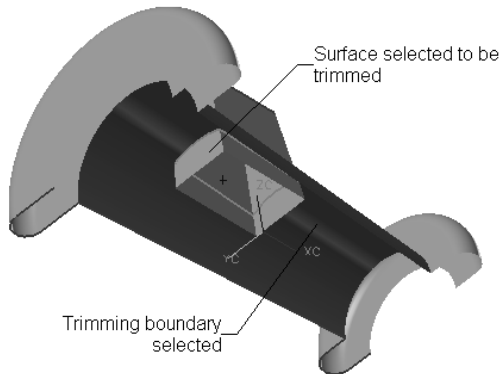

Figure 11-98 The surface to be trimmed and the trimming surface selected from the model
2. Select the sheet to be trimmed, as shown in Figure 11-98 and then press the middle mouse button; you are prompted to select the trimming objects.